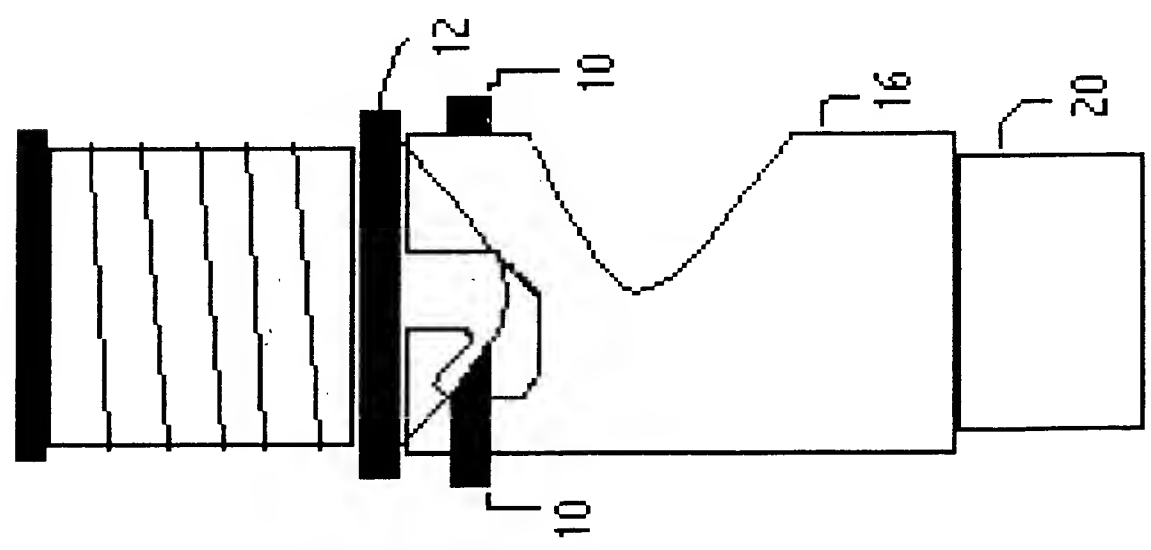

FIG. 11
- Fig 11 shows adaptor for modified spark plug ~~(tip)~~ ^A TERMINAL and conventional spark plug wire ~~(metal clamp)~~ ^{SAID} TERMINAL BEING CONNECTED an alternative embodiment.